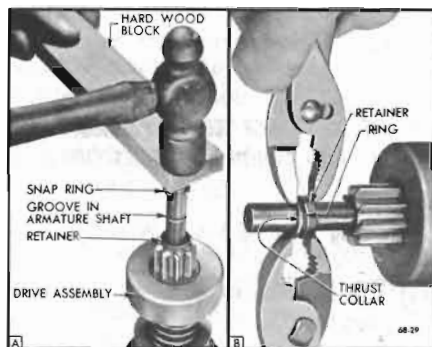

Figure 68-29—Pinion Stop Retainer and Snap Ring Installation
5. Place a new snap ring on drive end of shaft and hold it in place with a hard wood block. Strike block with hammer to force snap ring over end of shaft, then slide the ring down into groove in shaft. See Figure 68-29, View A.
and move the retainer into contact with ring. Using pliers on opposite sides of shaft squeeze retainer and thrust collar together until snap ring is forced into the retainer. See Figure 68-29, View B.